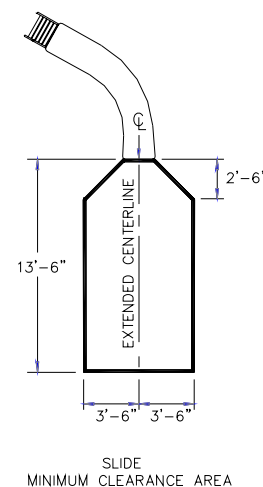

FIG. 14
- A. The minimum clearance distance on either side of the extended centerline of the slide runway shall not be less than three feet six inches (3'-6") at a point no less than two feet six inches (2'-6") from the exit lip of the slide and extending a distance of thirteen feet six inches (13'-6") in front of the slide as shown in **FIG. 14**.